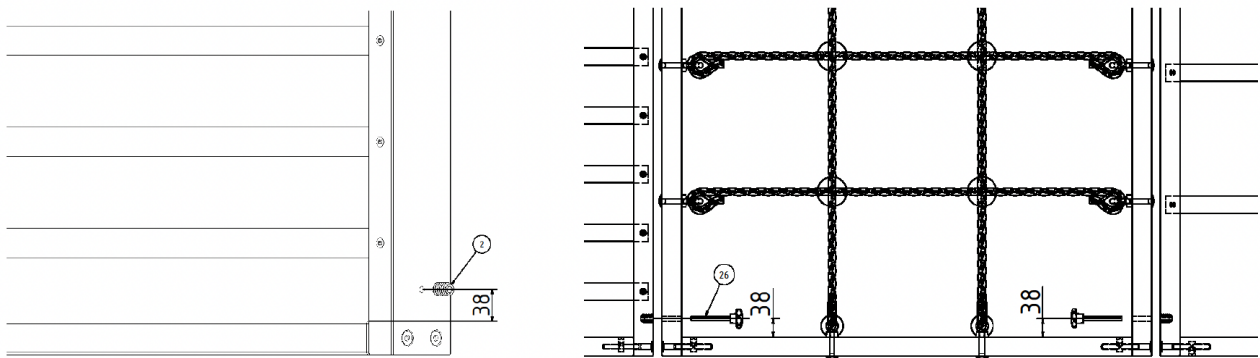

Fig. 6: Installing threaded insert and star grip screw
Caution: In the case of underfloor heating, omit the floor plates and fix the central gymnastics wall element laterally via threaded inserts (5) and star grip screws (39) in the outer elements (see Fig. 6). Drill a pilot hole for the threaded insert in each of the outer elements on the cheeks facing the centre, about 38 mm above the lower cheek. Then drill a through-hole in the side cheeks of the central element about 38 mm above the lower edge ($\varnothing$ 10 mm). Insert the star grip screws for lateral fixation.